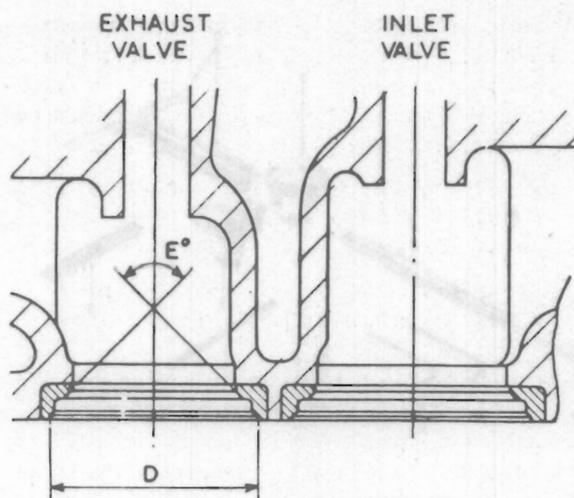

Fig. E.9.
5. Visually inspect to ensure that the insert is pressed in squarely and is flush with the bottom of the recess. See Fig. E.9.